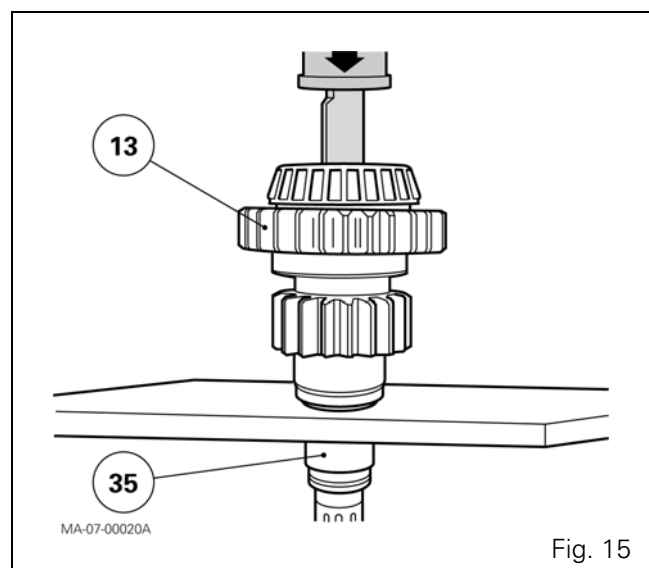

Fig. 15
107. Take out the pinion (13) and assemble it with the shaft (35) (Fig. 15), then fit the washer (5) and the screw (6). Tighten the screw to a torque of 50 Nm.